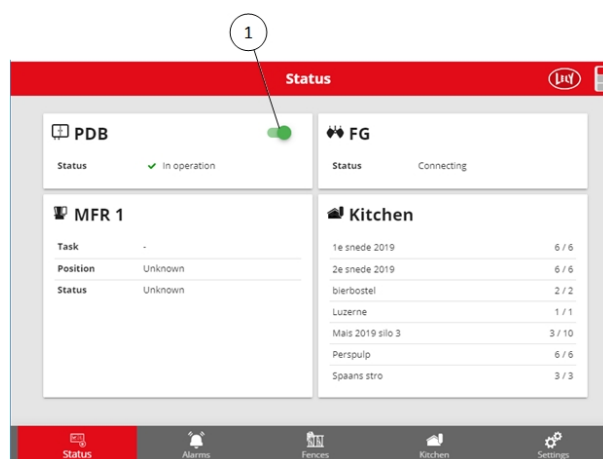

Figure 42. Status screen
3. Click on the switch (1) (see figure 42 on page 5-6), the colour of the switch changes from grey to green.